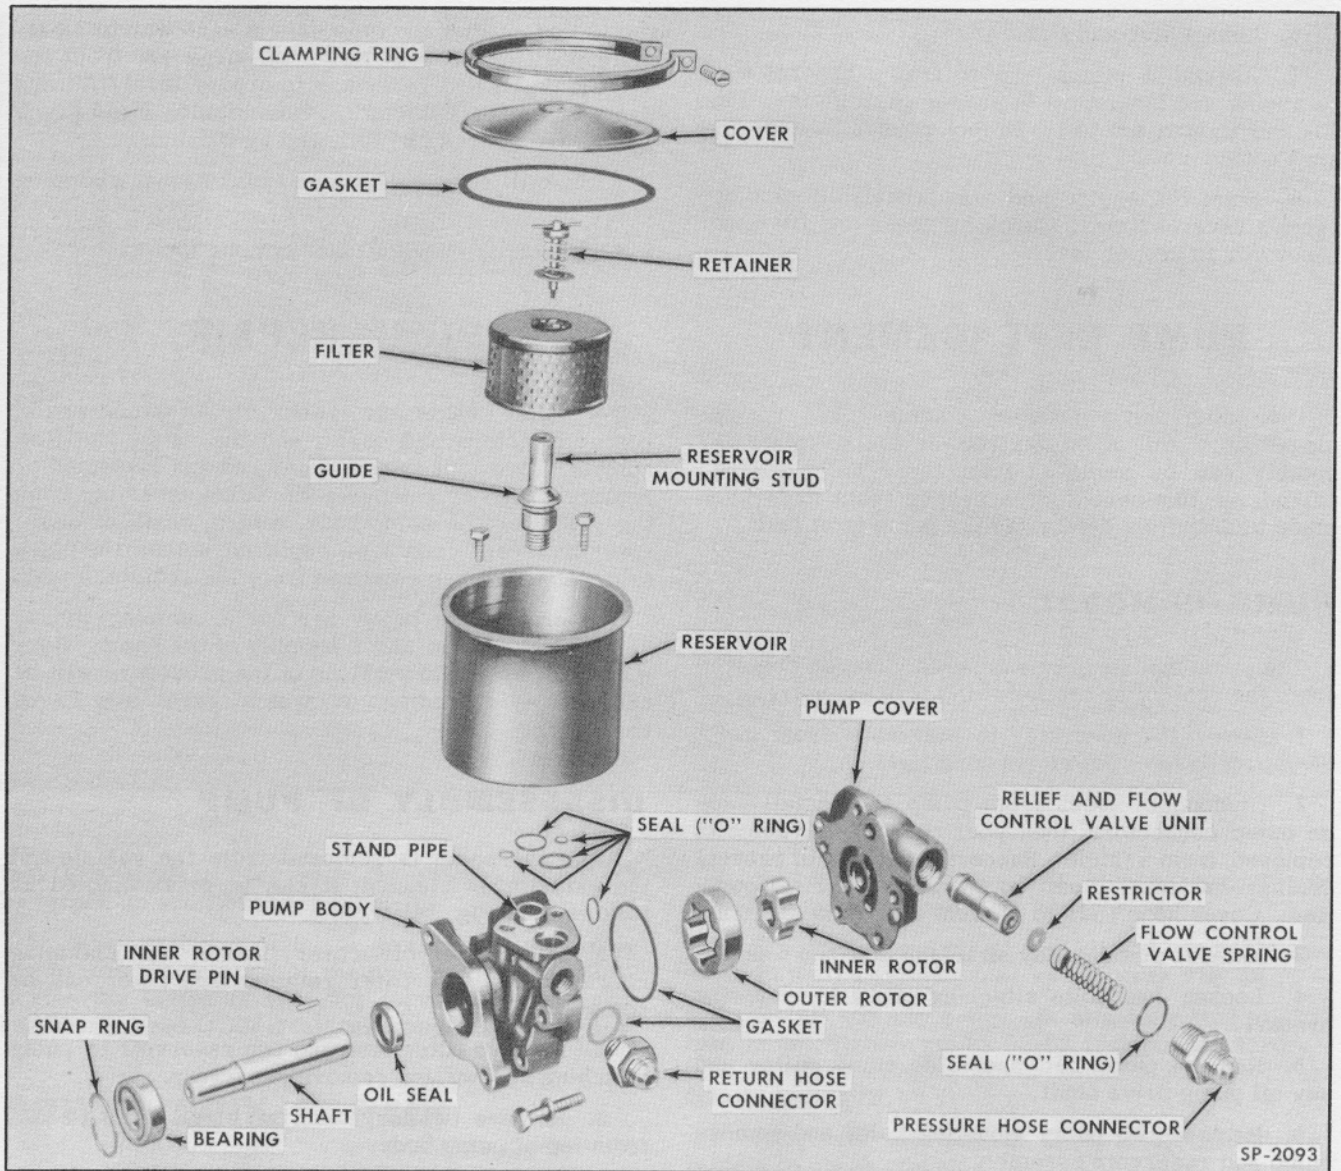

Fig. 14—Power Steering Pump—Exploded View
After the pump is removed from the vehicle and the exterior is cleaned, it can be disassembled as follows (see Fig. 14):
8. Place two large and two small O-ring seals on top of pump body and position oil reservoir on body. Check position of small inlet stand pipe on top of pump body (see Fig. 14). It should extend into the reservoir slightly.